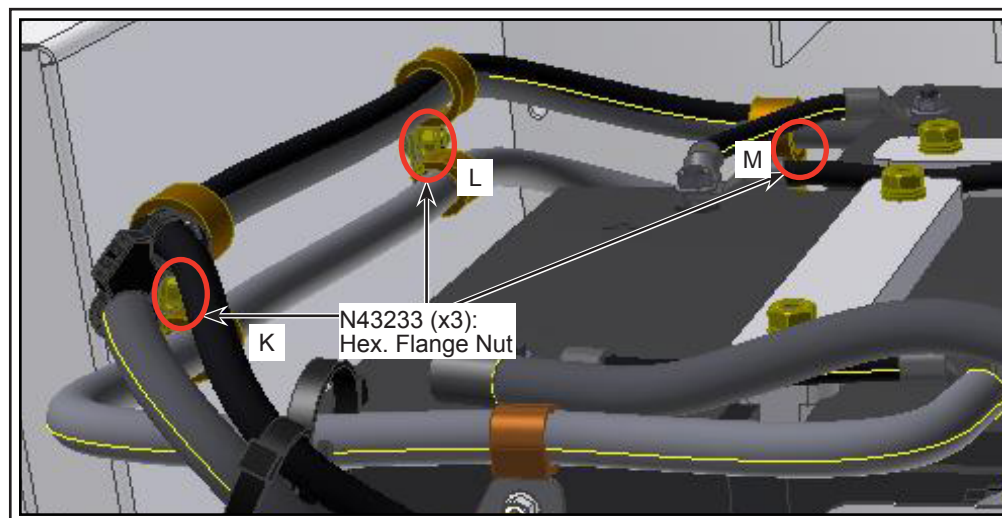

Figure 5 - Removal of Hex. Flange Nuts (3x N43233)
- 1.12. Remove the hex flange nuts M8 (3x N43233) and discard. Remove the clamps (K, L, M) and retain the same (see Figure 5).